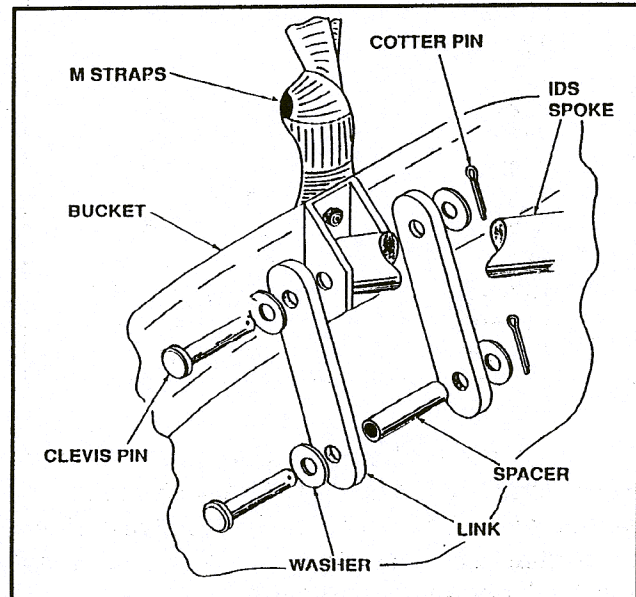

Fig. 6: Suspension hanger assembly.
5. Disconnect two spokes on either side of the ballast pouch by removing the clevis pins which connect them to the shell bracket. With the hardware provided, reconnect the I.D.S. spokes and suspension hangers to the shell brackets. See Fig. 6.